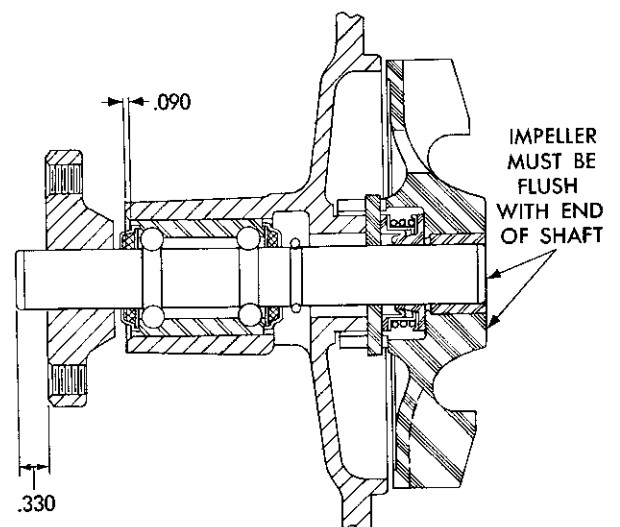

Fig. 6—Water Pump (Schematic Drawing)
- (5) Install fan hub while supporting pump body on impeller and on shaft, as this will apply pressure to the end of shaft, and not to the body. Maintain .330 inch dimension, as shown in Figure 6.